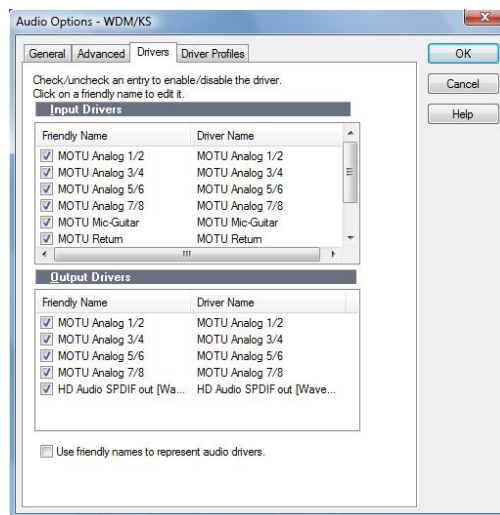

Figure 8-2: Activating the MOTU audio WDM driver in SONAR by highlighting 828mk3 inputs and outputs.
- 5 Check the 828mk3 inputs and outputs that you wish to use and uncheck the ones you don't as shown in Figure 8-2.
Once you've enabled the 828mk3 inputs and outputs in the Drivers tab of Sonar's Audio Options window (Figure 8-2 on page 57), 828mk3 audio inputs and outputs will appear in Sonar's input/output menus, and you can set them up and use them as any standard audio input and output. If you don't see the optical inputs and/or outputs, check MOTU Audio Setup to make sure they are turned on and set to the format you need. If you don't plan to use the optical input or output, turn it off to conserve computer bandwidth.